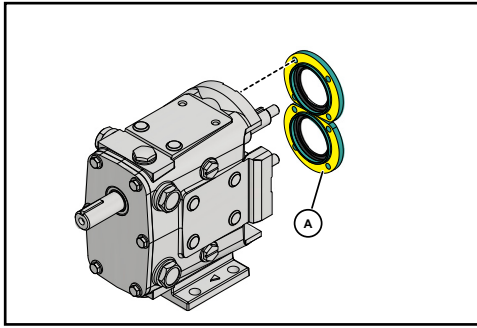

Figure 47 - Remove Sealant from Retainer
5. Remove the silicone sealant (Figure 47, item A) from the bearing retainer and gear case.